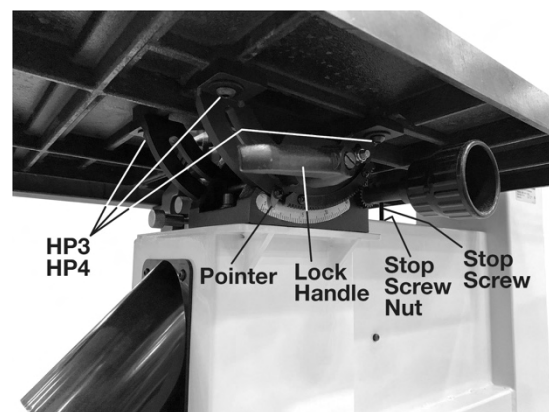

Figure 5-16: Table Alignments
4. When parallelism is achieved (and blade is still centered through table insert), securely tighten the four trunnion screws (HP3, Figure 5-16).
1. Insert stop screw with stop screw hex nut (see Figure 5-16) into threaded hole in table.
3. Loosen lock handle (see Figure 5-16) and manually tilt table until table and blade are square.
6. If needed, loosen screw and move pointer (see Figure 5-16) to align with zero on scale. Retighten screw.